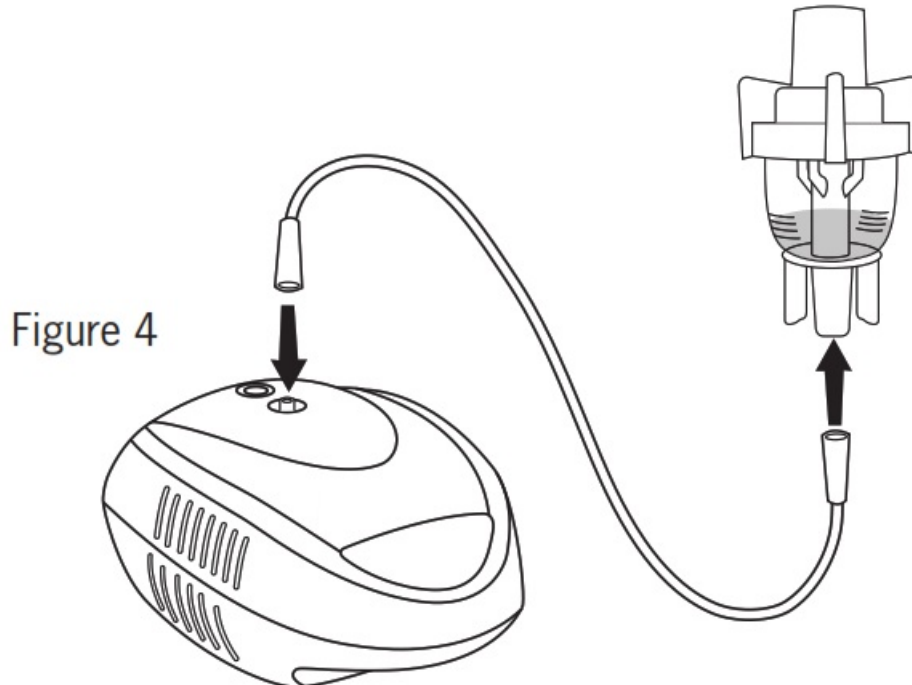

Figure 4
5. Attach one end of the air tube to the base of the nebulizer. (fig. 4)
6. Attach the other end of the air tube to the air outlet on the top of the LUMINEB II. (fig .4)